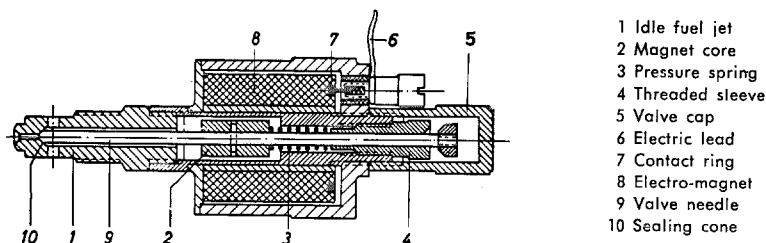

Fig. 07-0/55
If anything should happen to interrupt the electrical operation of the valve (blown fuse, burnt-out electro-magnet, etc.), it is possible to put the cut-out valve out of operation in the open position by unscrewing the threaded sleeve (4) (Fig. 07-0/55) after having removed the valve cap (5).